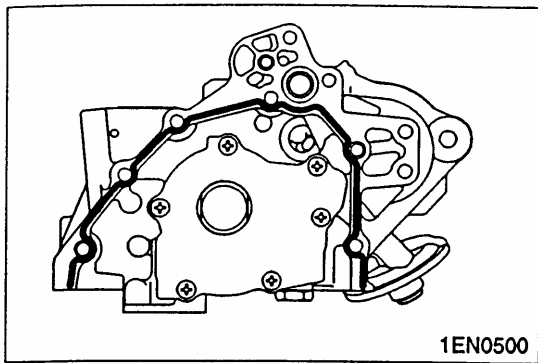

Fig.4-39
(1) FRONT OIL SEAL CASE INSTALLATION.
- a Clean the sealant application surfaces on the cylinder block and front oil case, see Fig.4-39.